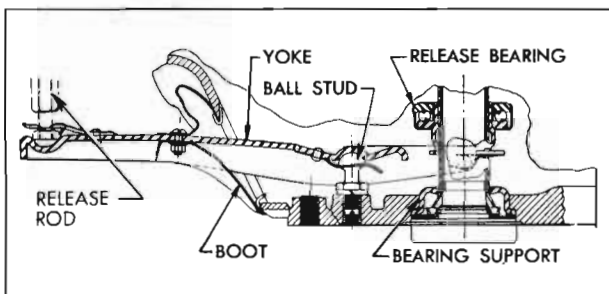

Figure 4-5—Clutch Release Yoke and Boot
2. Disconnect release rod from yoke, unhook boot from opening in flywheel upper housing, and pull yoke outward to disengage it from ball stud. See figure 4-5.
2. Disconnect release rod from release yoke and remove yoke boot. See figure 4-5.
9. Install boot and release rod nut lock on yoke (fig. 4-5), attach release rod to yoke, then adjust for clutch pedal lash of 1½" to 1¼" (par. 4-4).